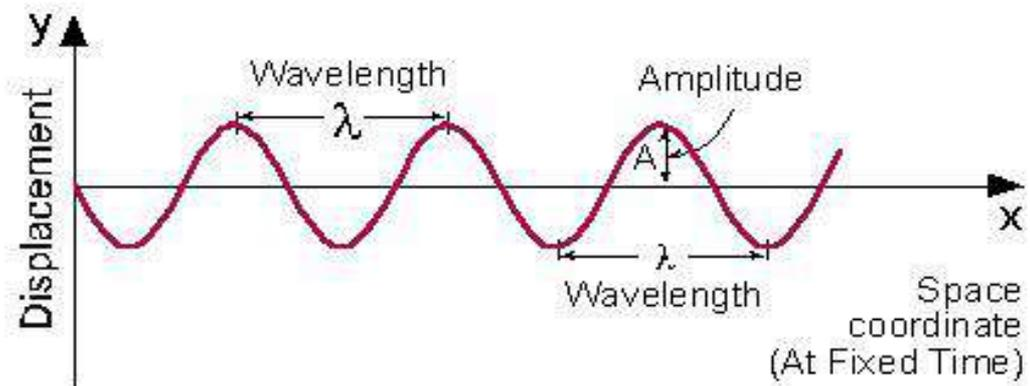

Fig 1.1: Displacement as a function of space coordinate (at fixed time)
- **Wavelength (λ)** is the distance between two adjacent points on the wave, which have the same **phase**. As an example (see figure 1.1) the distance between two adjacent peaks of the wave.
1- Displacement as a function of space, when time is "frozen" (held constant), as described in figure 1.1. In this description, the minimum distance between two adjacent points with the same phase is wavelength (λ). Note that the horizontal (x) axis is space coordinate !